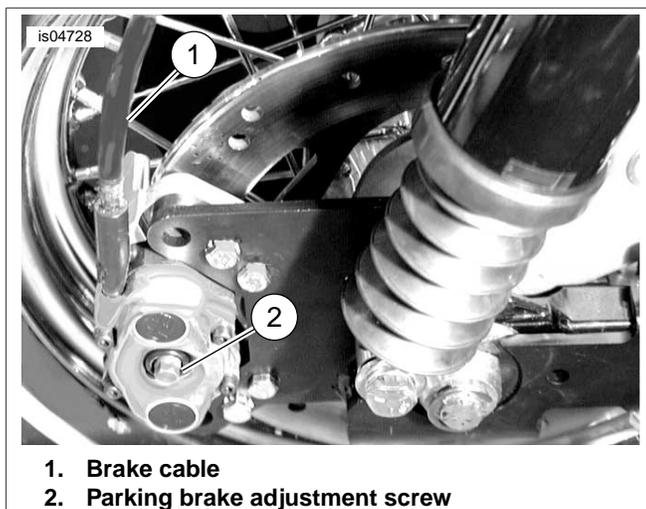

Figure 7. Route Parking Brake Cable (2007 and Earlier Shown)
- See Figure 7. Route the brake cable up and over the shock tower. Continue routing toward the front of bike directly to lever assembly. Do not route inside of frame tubing or under the exhaust. Ensure that the cable does not interfere with rear shock, rear wheel or side cover.
2. See Figure 7. Disconnect the parking brake cable from parking brake lever. Tighten (turn clockwise) the parking